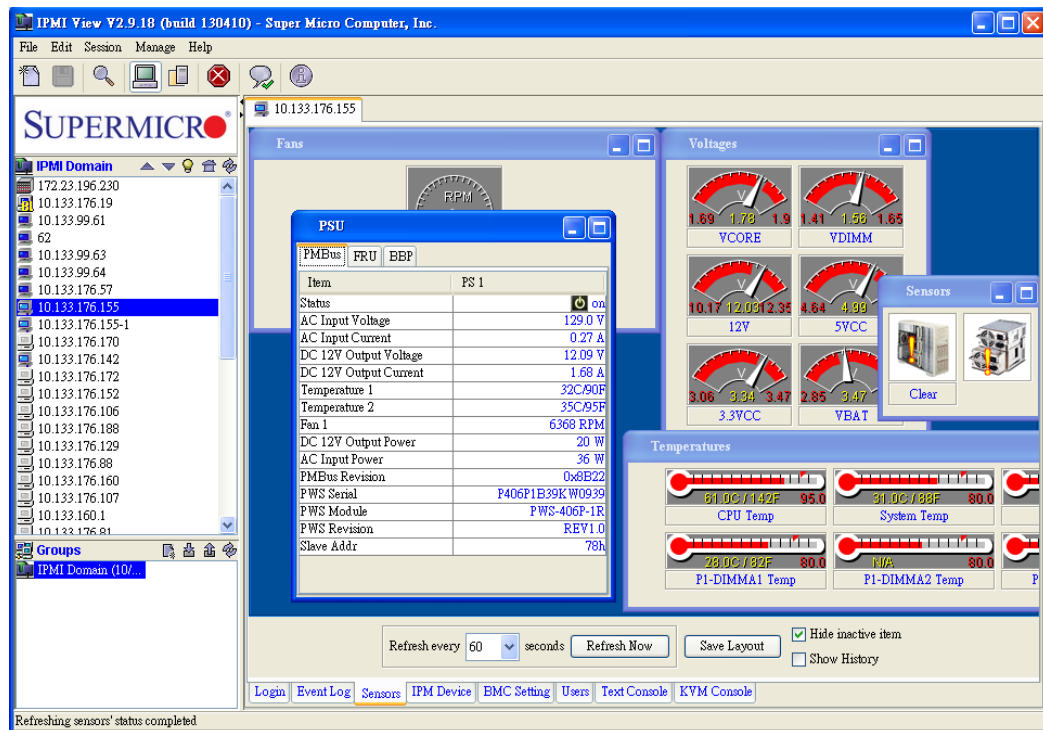

Figure 5-1
This feature displays the status of each sensor used to monitor system health as shown in Figure 5-1.
1. The battery can be automatically or manually discharged. In the PSU dialog box (see Figure 5-1), click the <BBP> tab.